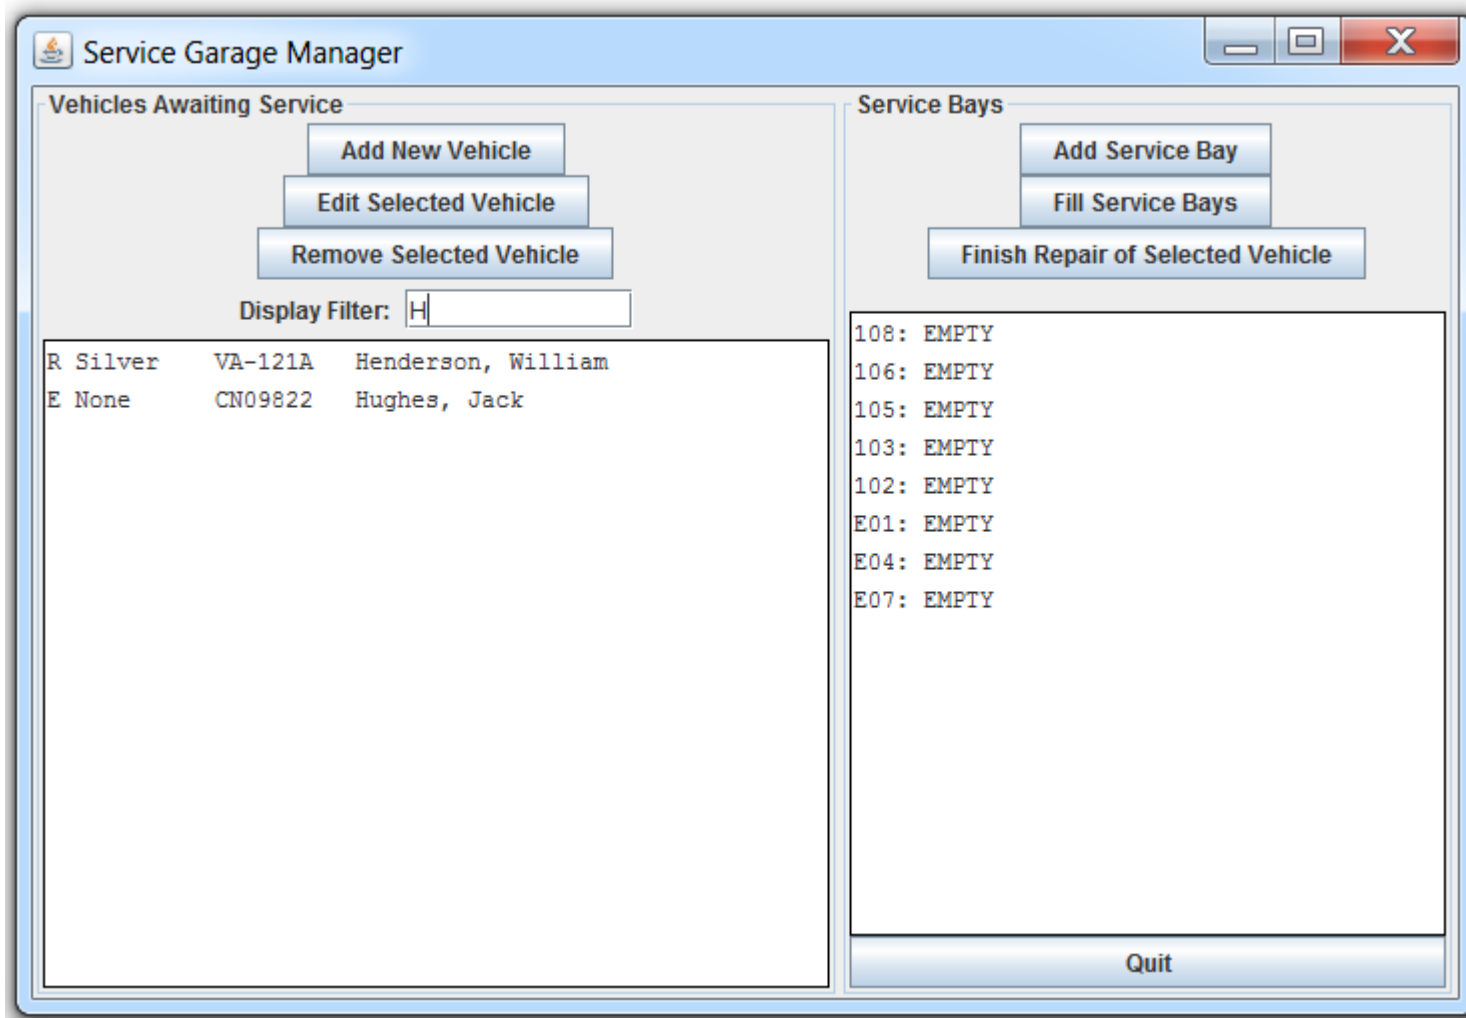

Figure 3: Filtering the list of Vehicles Awaiting Service with “H” prefix.
The user interface must display the service bay numbers and current assignments (EMPTY, or **license plate with owner name**). It must also display the list of vehicles in order of their positions in the Vehicles Awaiting Service list. Since that list can be quite long, the user must be able to filter the display to show only vehicles whose owner last names match a prefix filter. Figure 3 shows a filtered list. Only owners (in the Vehicles Awaiting Service list) whose last names start with “H” (ignoring case) are displayed. The user can clear the text field to clear the filter and once again display all vehicles.
****Main Flow:**** The user enters a prefix string in the *Display Filter* text field. The GUI changes the Vehicles Awaiting Service list display to show only vehicles whose owner's last name start with the prefix string (ignoring case). See Figure 3.